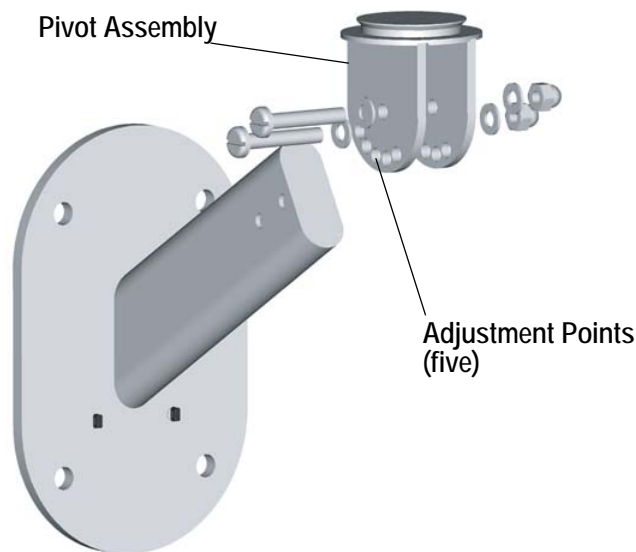

Figure 7-9 Assembling the wall bracket
1. On the pivot assembly, assemble, but do not tighten, the centre bolt, dome nut and two washers in the order shown in Figure 7-9.
2. Rotate the pivot assembly to the required position. Assemble, but do not tighten, the bolt, dome nut and two washers in the order shown in Figure 7-9.
3. On the pivot assembly (Figure 7-9), remove the outer dome nut, bolt and washers. Loosen, but do not remove, the centre dome nut.